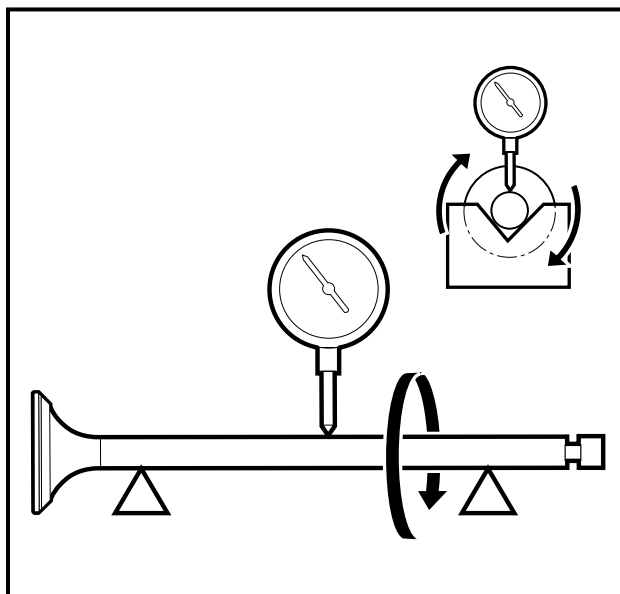

Figure 18-26 Measure Valve Stem Bend
1. Support the valve in V-blocks at each end of the stem (**Figure 18-26, Page 18-14**).